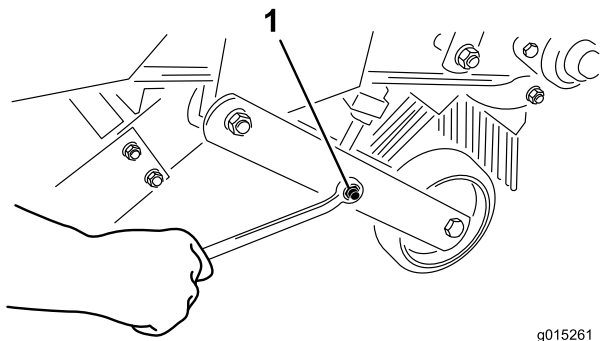

Figure 11
- Loosen the locknut on the depth adjustment bolt so that it can be turned (Figure 11).